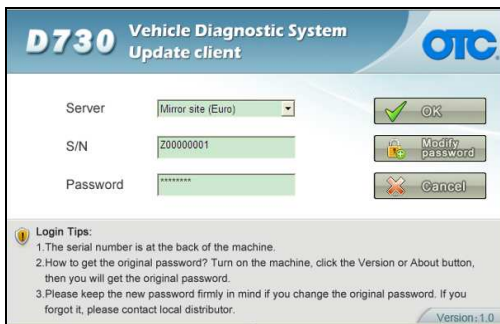
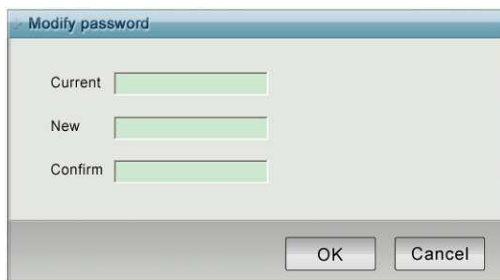

Fig 2-4 Modify password
Fig 2-5 Modify password screen
(1) After inputting the serial number, click **[Modify password]** as shown in Fig 2-4 to go to the next step as Fig 2-5.